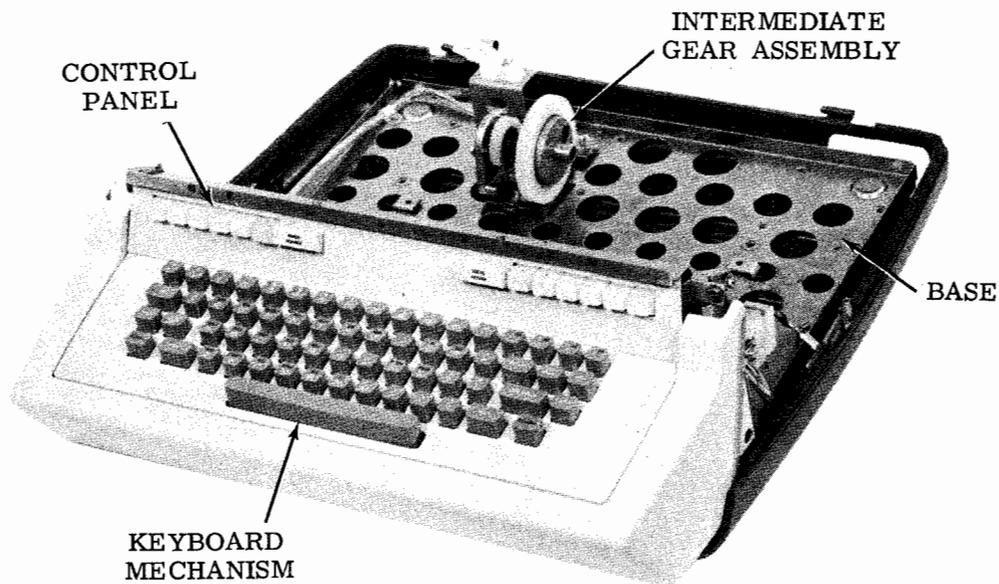

Figure 2 - Keyboard Unit, Right Front View
1.02 Each adjustment or mechanical requirement is associated with a basic mechanism of the keyboard unit. Both the basic mechanisms and subordinate adjustments are indexed in the table of contents. The basic mechanisms are identified in Figures 2 and 3.